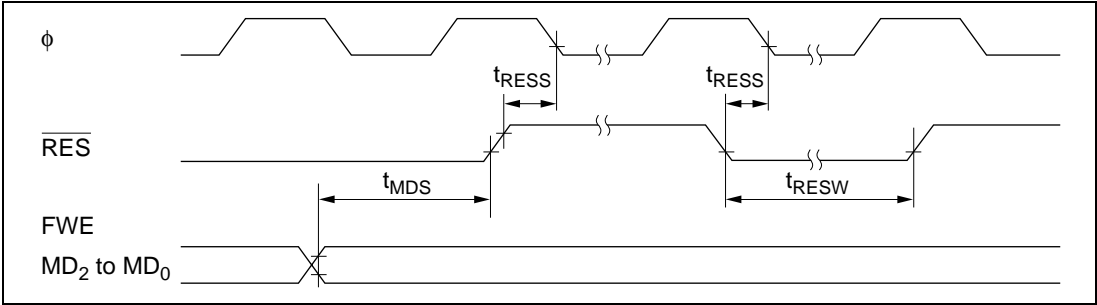

Figure 21.11 Reset Input Timing
- Figure 21.11 shows the reset input timing.